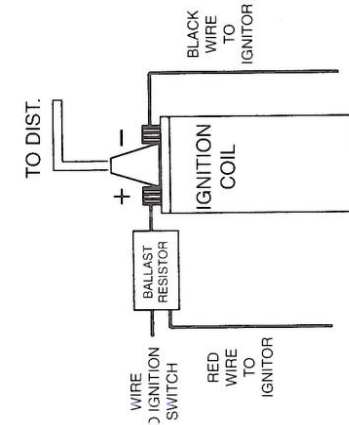

FIGURE 2
5. **The red wire from the Ignitor must be connected to the positive (+) side of the coil, or a 12-volt (+) switched power source.** (See Figure 2 & 3). **The black wire must be connected to the negative (-) side of the coil.**